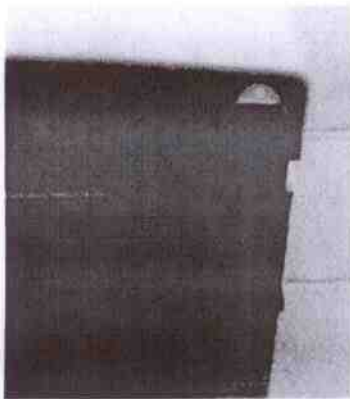

Figure 1
2. Remove the feet from the bottom, right hand hinge (figures 1 and 2).